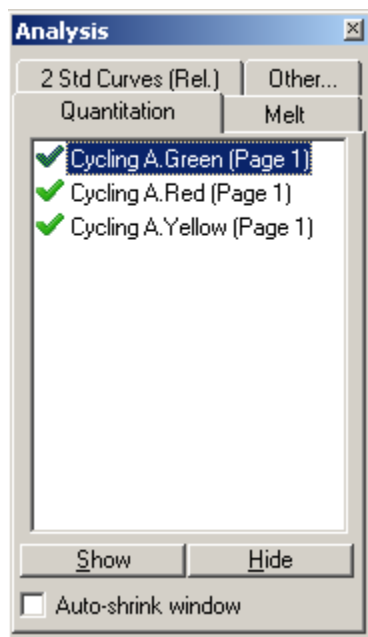

Fig. 1.13 Analysis selection
2. When the program is finished, click **Analysis** in the main menu and select **Quantification** (see Fig. 1.13).